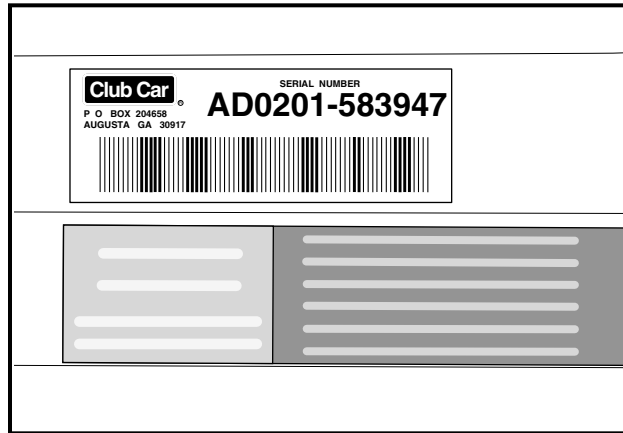

Figure 3-1
The serial number of each vehicle is printed on a bar code decal mounted on the frame directly above the accelerator pedal (Example: QG0012-583947) (**Figure 3-1, Page 3-2**). There is also a second serial number decal mounted on the front body frame behind the dash panel. The dashboard must be removed to view this number. **See following NOTE.**
**NOTE:** Always have the vehicle serial number at hand when ordering parts or making inquiries (Figure 3-1, Page 3-2).